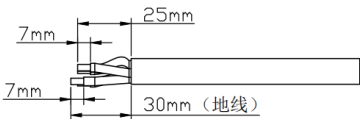

Figure 6-11-1 Stripping
- 1) Stripping, only supports multiple copper wires, the ground wire should be 5mm longer than the live and neutral wires, as shown in Figure 6-11-1.